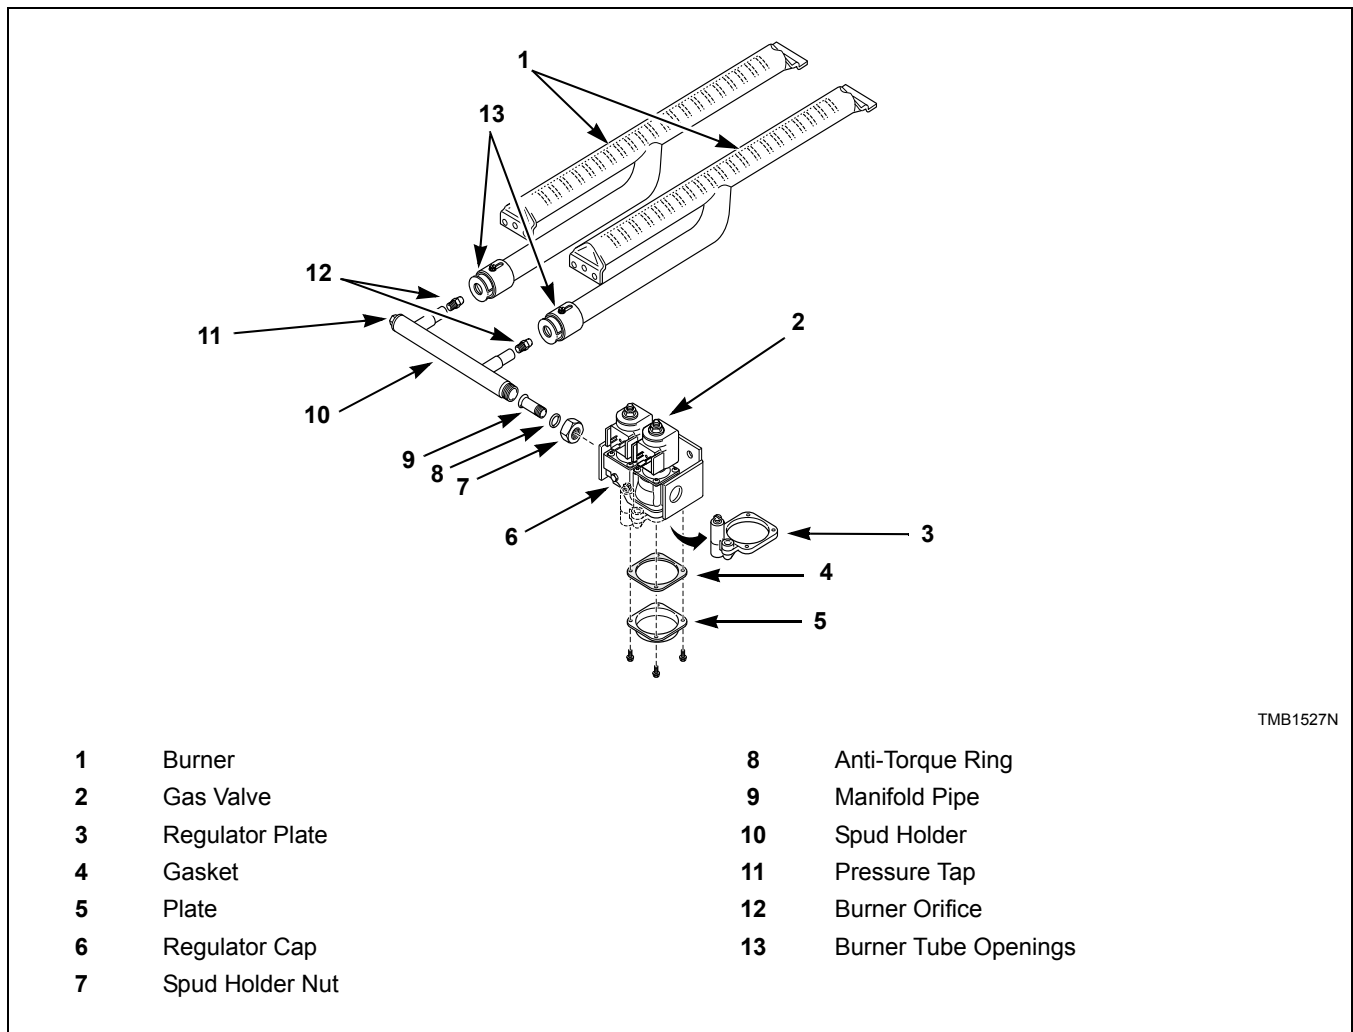

Figure 12
Johnson G96 Gas Valve – Unscrew spud holder nut near gas valve. Remove the burner orifice(s) from spud holder. Refer to *Figure 12*.
1. Check gas burner orifice (manifold) pressure as follows. Refer to *Figure 12*.
4. Start tumbler and note pressure once flame is burning. Remove regulator cap and adjust regulator screw until the burner orifice pressure per applicable table is achieved. Replace regulator cap. Refer to *Figure 12*.